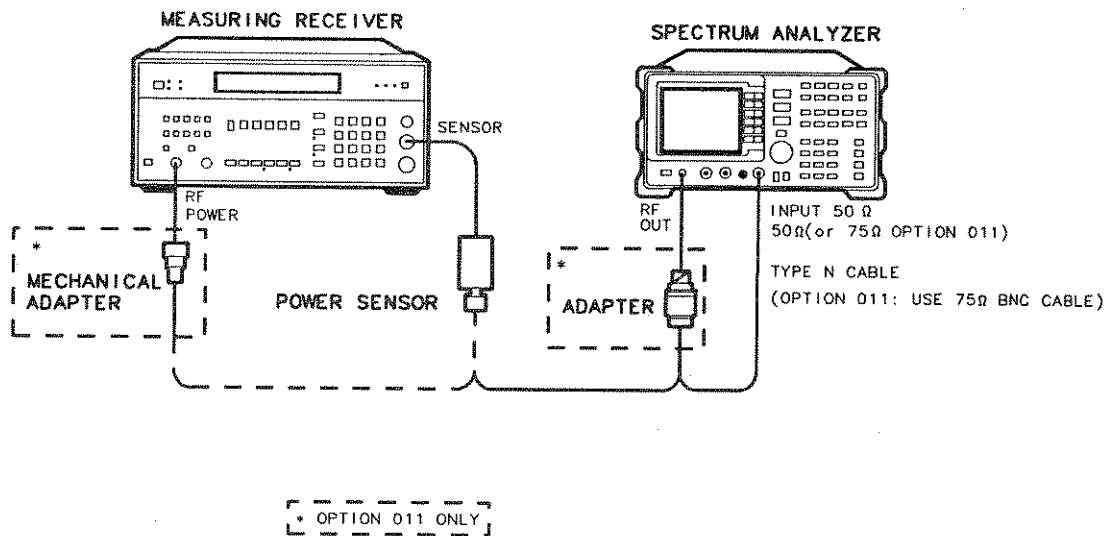

Figure 3-28. Tracking Generator Level Flatness Test Setup
1. Connect the Type N cable between the RF OUT 50 Ω and INPUT 50 Ω connectors on the spectrum analyzer. See Figure 3-28.